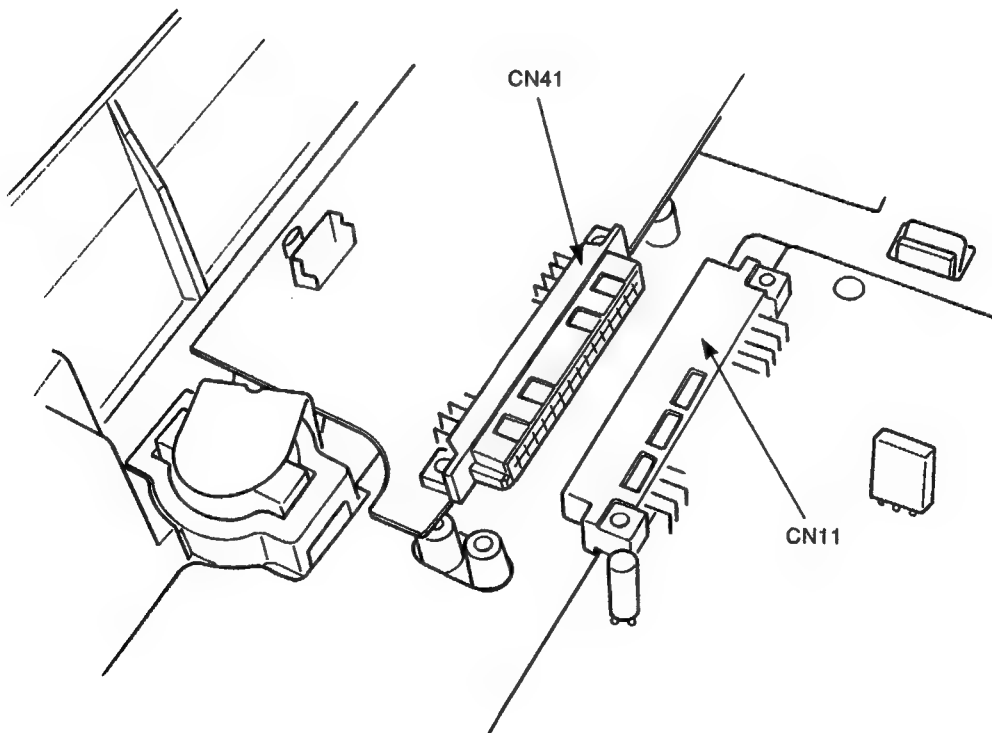

Figure 3-65 Connectors CN11 and CN41
5. Lift off the mother board PCB assembly by disconnecting CN11 from CN41 on the connection board PCB assembly (see Figure 3-65).